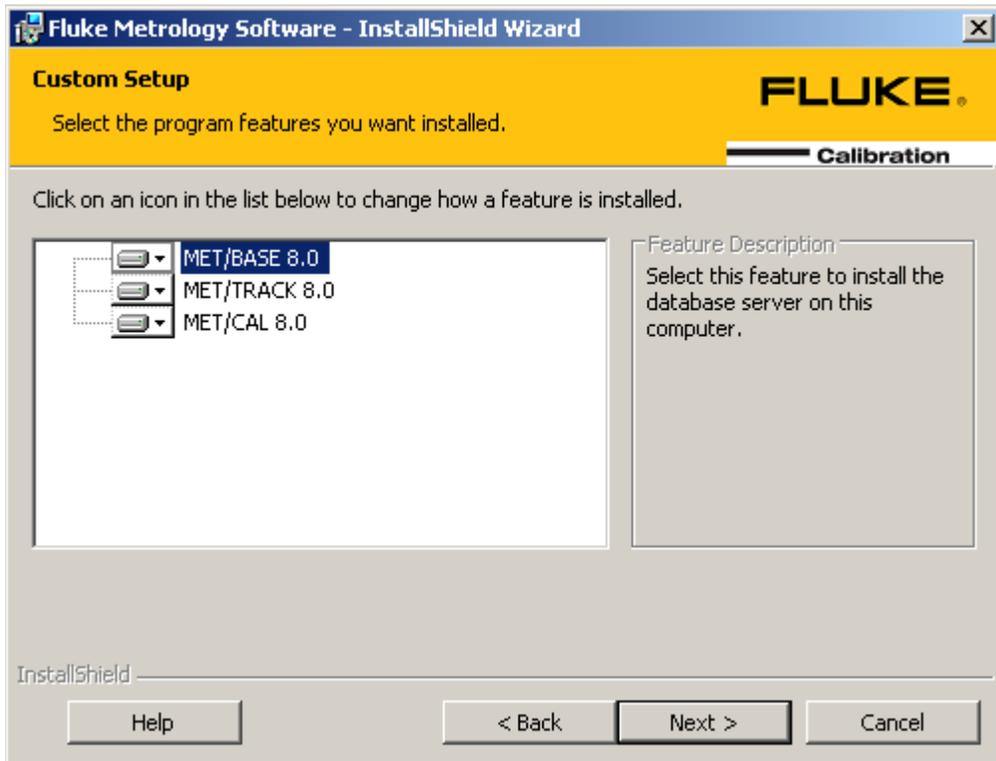

Figure 3. Custom Installation
7. Click **Next** to proceed. If you selected the Full/Custom Installation option, the Custom Setup dialog is displayed, see Figure 3. By default, all features are selected for installation.